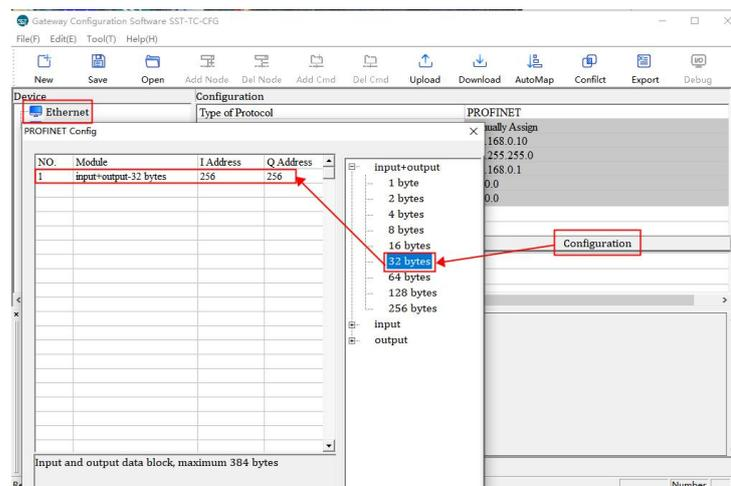

Figure 10: Configuring Ethernet Input/Output Modules for the Gateway
3.2 Click the "Configuration" button in "Ethernet" to configure the required byte type and length. After the configuration is complete, download the gateway configuration, as shown in Figure 10.